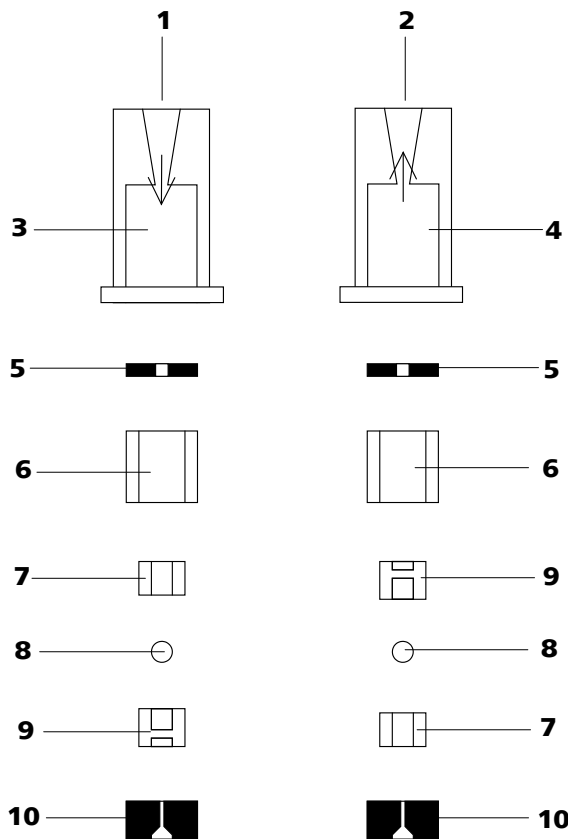

Figure 44 Components of the inlet valve and outlet valve
- The inlet valve and the outlet valve consist of the same, just differently arranged components (*see figure 44, page 82*).
Reassemble valve components *according to figure 44, page 82*.
- Lay the other valve components above another in the correct sequence (*see figure 44, page 82*).
If this is not the case, the valve has to be dismantled again and be reassembled correctly (*see figure 44, page 82*).